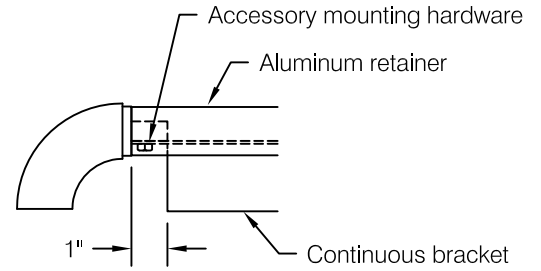

fig 2
- Step 2:** Cut aluminum retainer and continuous bracket. See **Cutting Adjustment Diagrams and Schedule** for adjustments to aluminum retainer and bracket length at wall returns, inside corners, and outside corners. To allow for accessory mounting hardware continuous bracket must be cut 1" shorter than aluminum retainer at all accessories, see **fig 2**. Refer to **Minimum Layout Configurations** for additional information.
- Step 3:** Layout aluminum retainer "face up", mark and drill bracket mounting hole locations in aluminum retainer and continuous bracket. Be sure to offset continuous bracket 1" in from end of retainer at each accessory location, see **fig 2**.